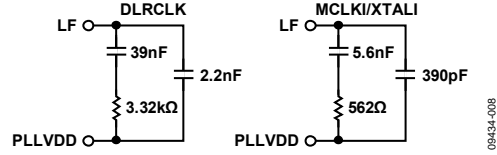
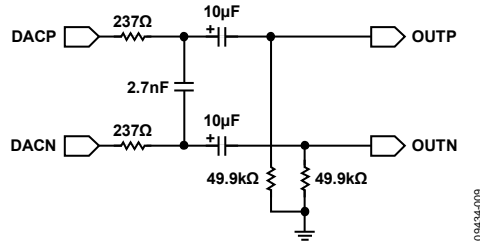
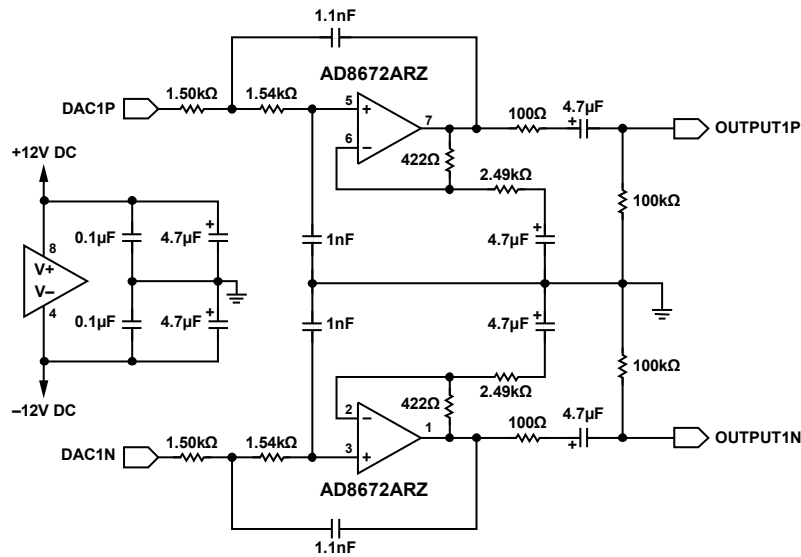
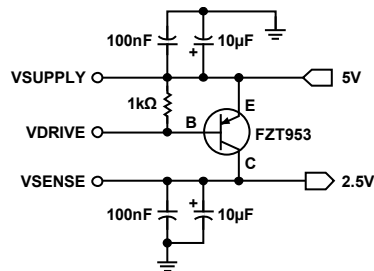

Figure 8. Recommended Loop Filters for DLRCLK or MCLKI/XTALI PLL Reference Modes
Figure 9. Typical DAC Output Passive Filter Circuit (Differential)
Figure 10. Typical DAC Output Active Filter Circuit (Differential)
Figure 11. Recommended 2.5 V Regulator Circuit
Typical application circuits are shown in Figure 8 to Figure 11. Recommended loop filters for DLRCLK and MCLKI/XTALI modes of the PLL reference are shown in Figure 8. Output filters for the DAC outputs are shown in Figure 9 and Figure 10, and an external regulator circuit is shown in Figure 11.
When AVDD is supplied with 5 V, each analog output pin has a nominal common-mode (CM) dc level of 2.25 V and swings ± 8.49 V p-p (3 V rms differential) from a 0 dBFS digital input signal. An AVDD of 3.3 V generates a CM dc voltage of 1.5 V and allows differential audio swings of ± 5.66 V p-p (2 V rms) from a 0 dBFS digital input signal. The differential analog outputs require only a single-order passive differential RC filter to provide the specified DNR performance; see Figure 9 for an example filter. The outputs can easily drive differential inputs on a separate PCB through cabling as well as differential inputs on the same PCB.
If more signal level is required or if a more robust filter is needed, a single op amp gain stage designed as a second-order, low-pass Bessel filter can be used to remove the high frequency out-of-band noise present on each pin of the differential outputs. The choice of components and design of this circuit is critical to yield the full DNR of the DACs (see the recommended passive and active circuits in Figure 9 and Figure 10). This filter can be built into an active difference amplifier to provide a single-ended output with gain, if necessary. Note that the use of op amps with low slew rate or low bandwidth can cause high frequency noise and tones to fold down into the audio band; exercise care when selecting these components.
The ADAU1966 PLL can also be programmed to run from an external LRCLK. When the PLLIN bits in the PLL_CLK_CTRL0 register are set to 01 and the appropriate loop filter is connected to the LF pin (see Figure 8), the ADAU1966 PLL generates all of the necessary internal clocks for operation with no external MCLK. This mode reduces the number of high frequency signals in the design, reducing EMI emissions.